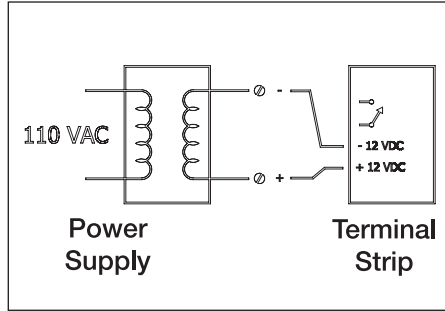

Figure 17
6. Install wiring (The wire is installer supplied. Thermostat wire is acceptable.) between the green circuit board connector and the Power Supply, observing polarity, as shown on both the Power Supply and the control panel. [+ to + and - to -] **Figure 17**